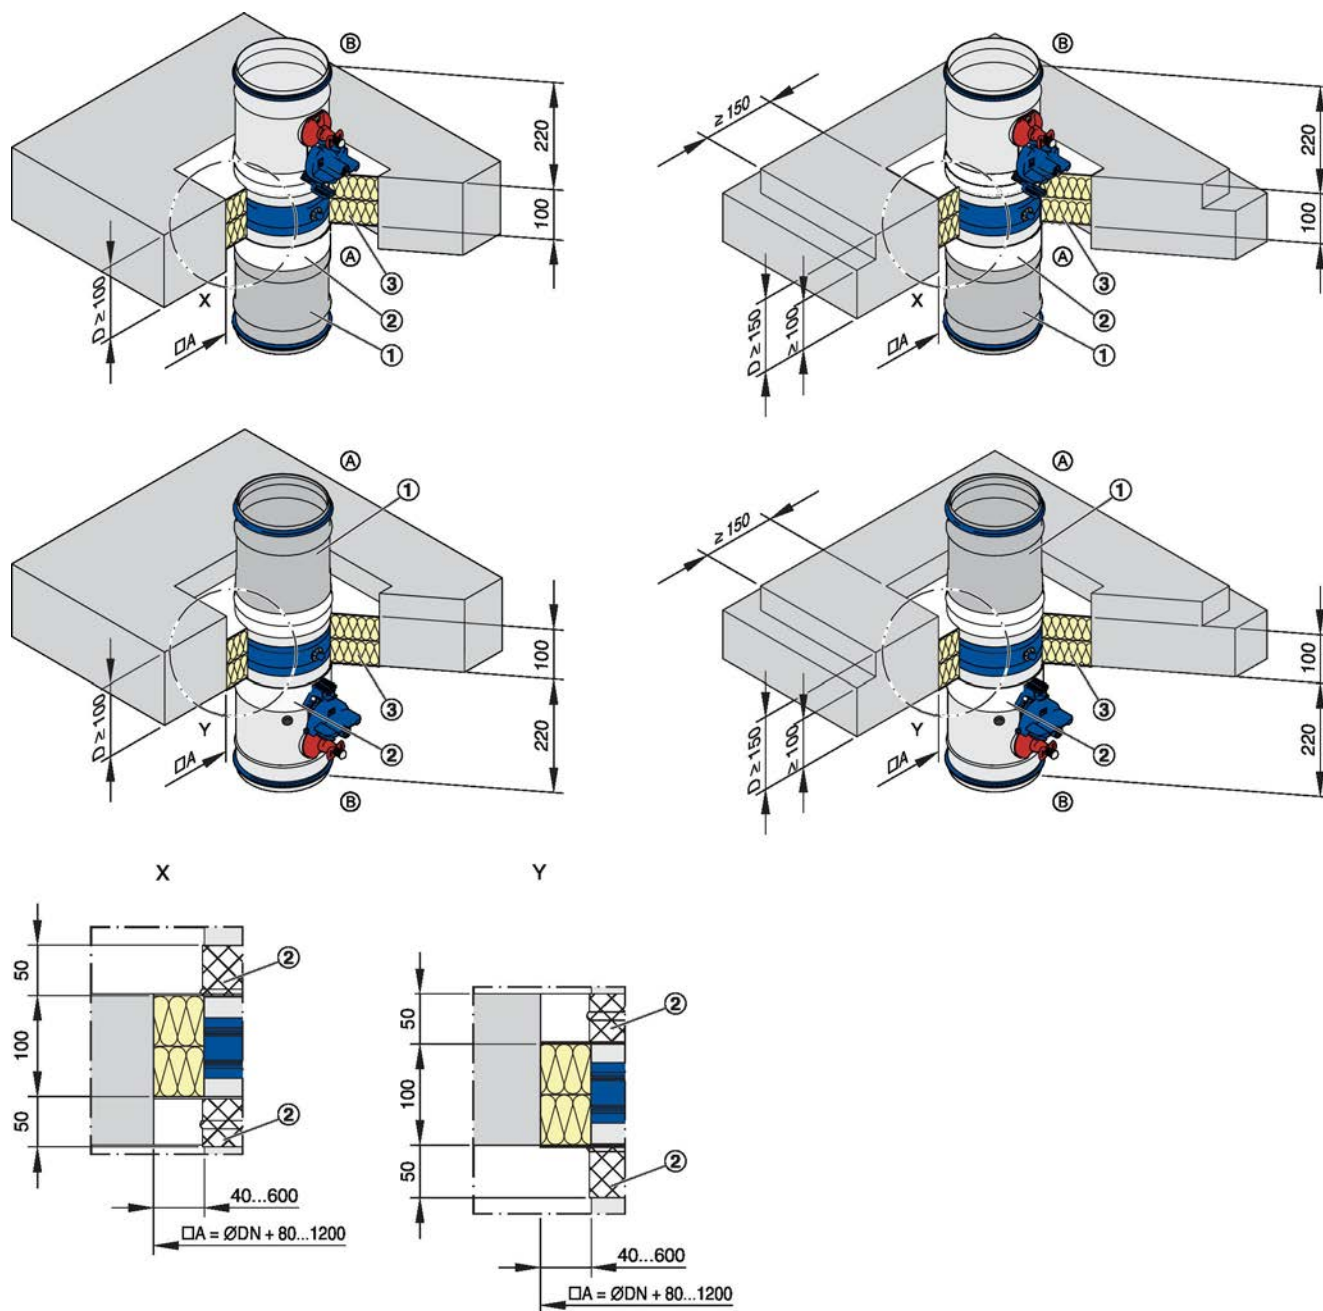

Fig. 25: Installation with fire batt, suspended or upright
- ▶ An opening is required, see Fig. 25. 600 mm maximum distance between fire damper and installation opening